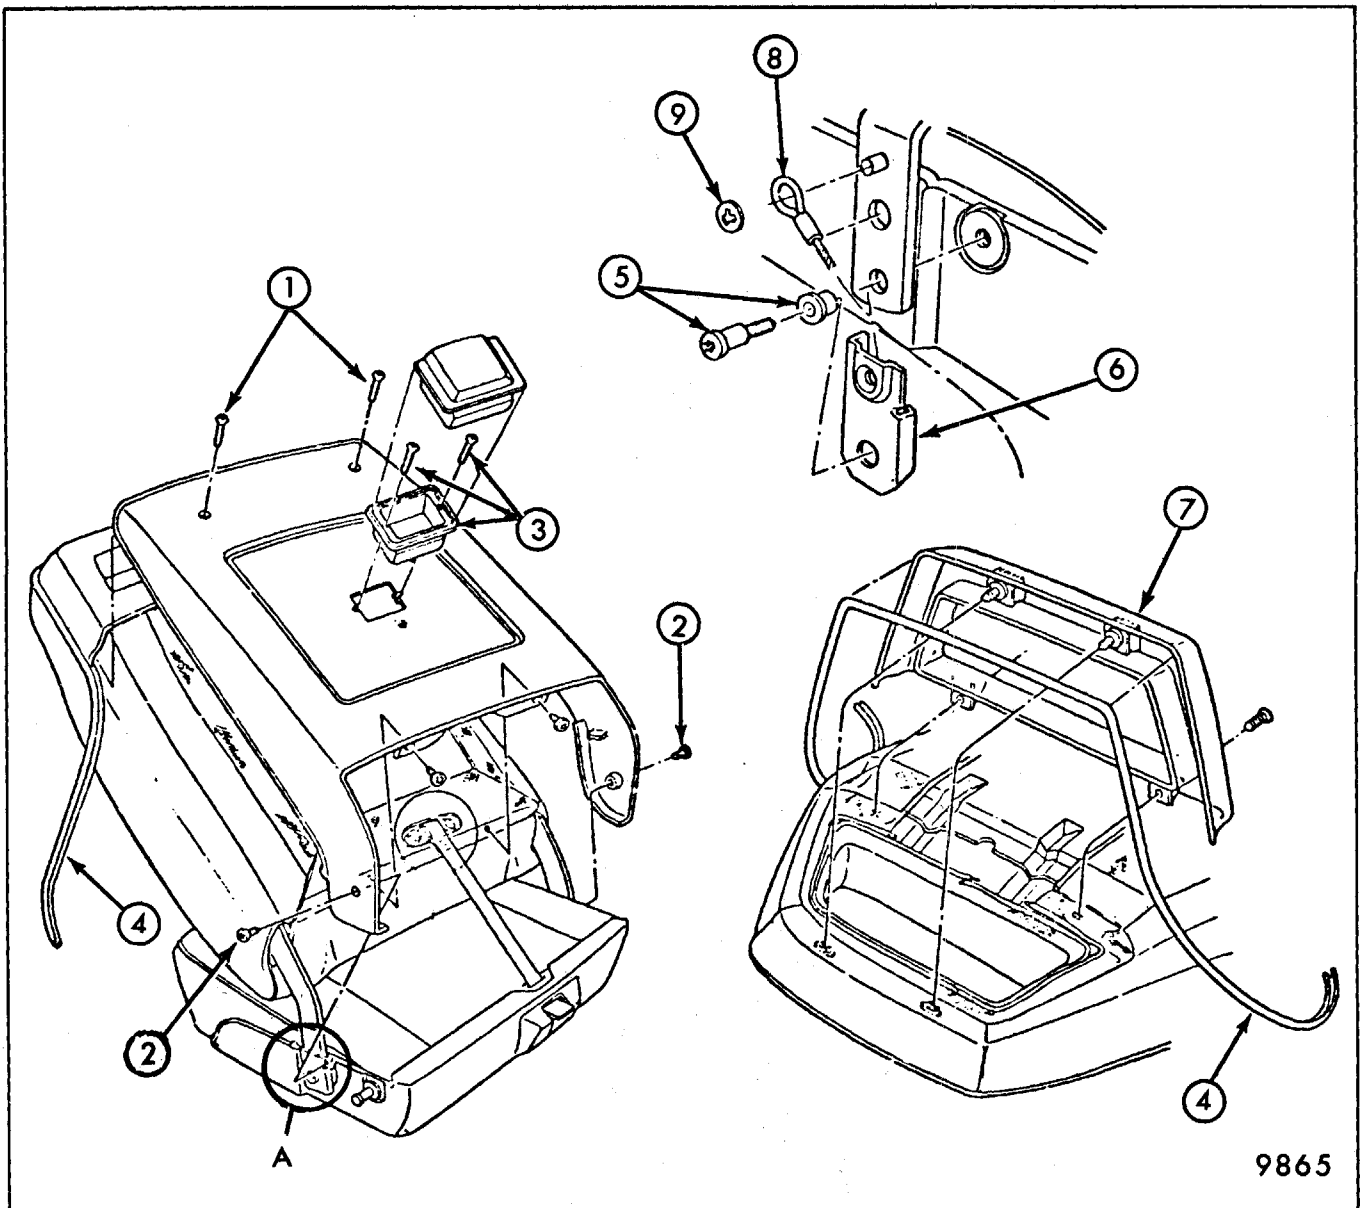

Fig. 9-75 - Bucket Seat Back Panel - Non Reclining Seat Back - A Styles
3. Remove screws securing upper corners of seat back panel; then remove seat back panel. On Pontiac Grand Prix Deluxe Bucket Seat, detach panel finishing lace from lower panel (Fig. 9-75).
6. Remove shoulder screws securing seat back hinge arms to cushion frame (Fig. 9-75) and on seats with reclining seat back remove reclining hinge-to-seat back bolts from both sides of seat back (Fig. 9-77) and remove seat back assembly.